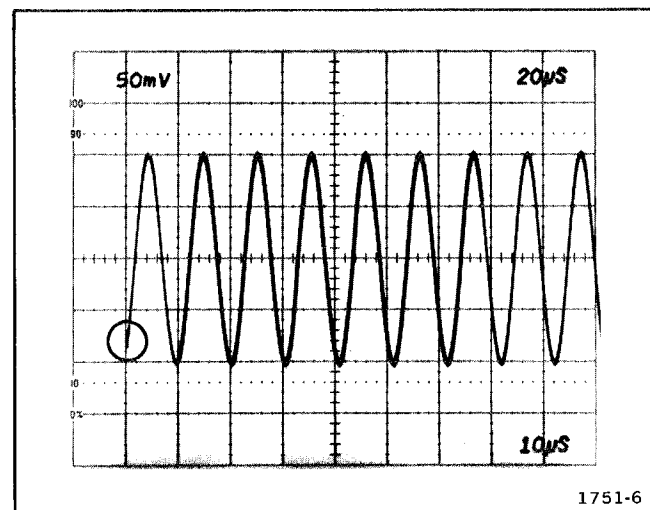

Fig. 5-10. Trigger sensitivity. (Circle denotes correct trigger point.)
a. Adjust—Trig Sens, R125, for a sweep trigger point at approximately 0.5 division from bottom of waveform as MAIN TRIGGERING LEVEL control is rotated through negative (−) portion of its range. See Fig. 5-10 for reference.
a. Adjust—Trig Sens, R325, for a Delayed sweep trigger point at approximately 0.5 division from bottom of waveform as Delayed Triggering LEVEL control is rotated through negative (−) portion of its range. See Fig. 5-10 for reference.